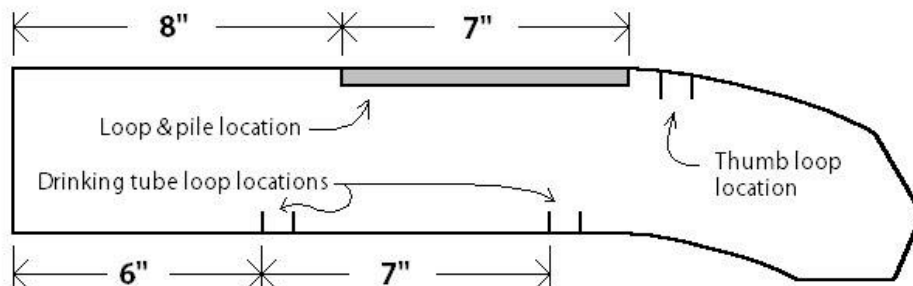

Figure 2. Attachment of loops to shoulder straps.
2.1 On right side of fabric, stitch thumb loops (6" grosgrain ribbon) and drinking tube loops (4" grosgrain ribbon) in lining of left and right straps where indicated on pattern and shown in *Figure 2*.
- 2.2 Make a 1/2" slit in straps where indicated in *Figure 2*. Fold under (to the wrong side) between slits, making 7" tabs.